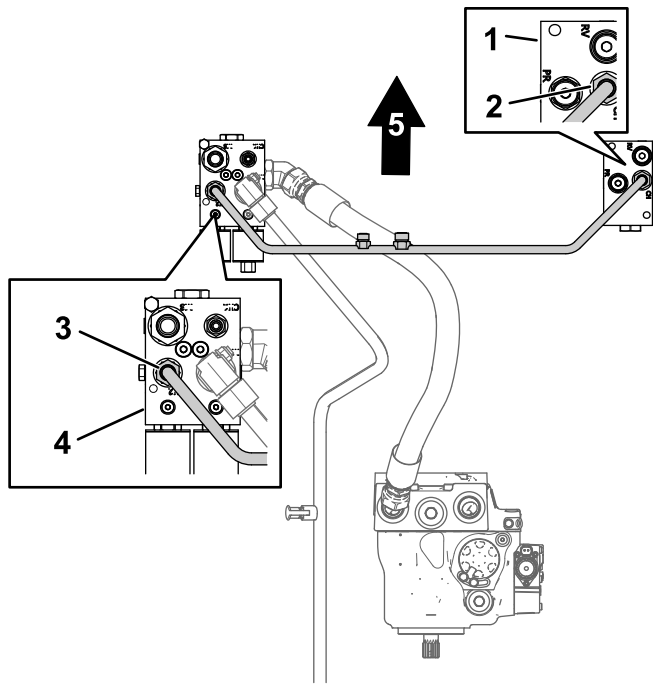

Figure 9
2. Align the tube nuts for the cross-manifold tube to the fittings in the rear-traction manifold and the flow-divider manifold (Figure 9).